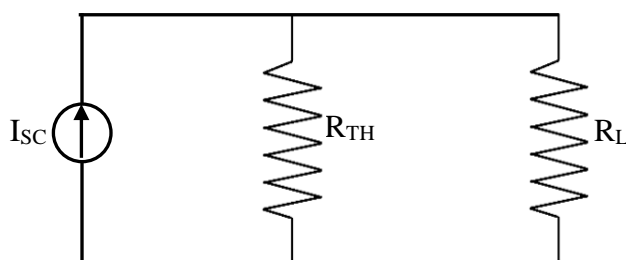

Figure 7.2: Norton's Equivalent Circuit
6. Mount the Norton's equivalent circuit using current I_{SC} and resistance R_{TH} in parallel across the load resistance as shown in Fig .7.2.